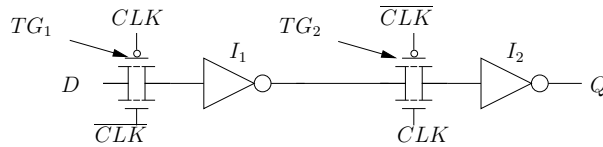

Figure 1: D Flip-flop
1. An implementation of a D Flip-flop is show in Fig. 1. Answer the following